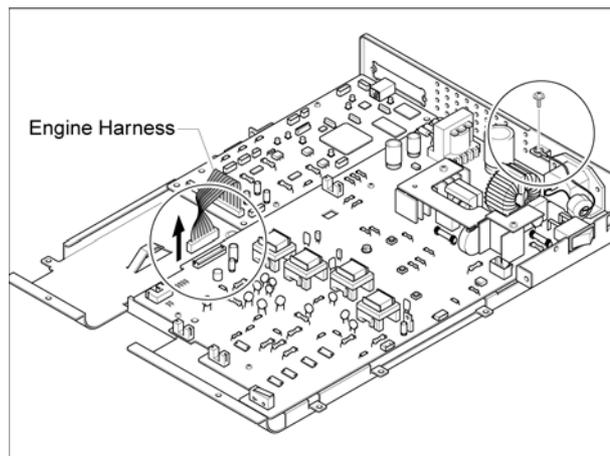

Figure 2
3. Disconnect CON 2, Figure 2.